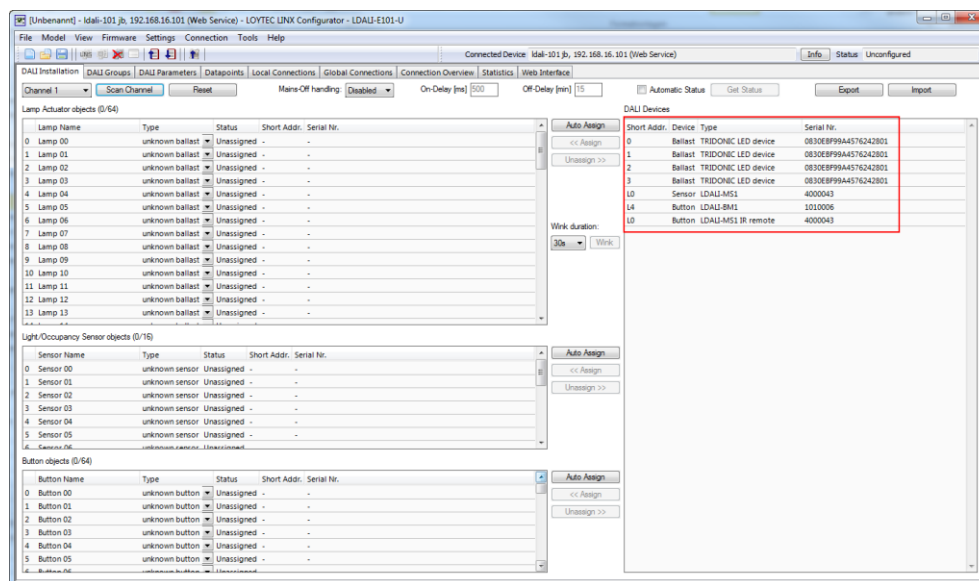

Figure 74: LINX Configurator software, detected DALI devices.
3. The L-DALI device scans the selected channel and displays all detected devices as shown in Figure 74. In case an error occurs see the LOYTEC Device User Manual [1] for a description of the error codes and possible reasons.